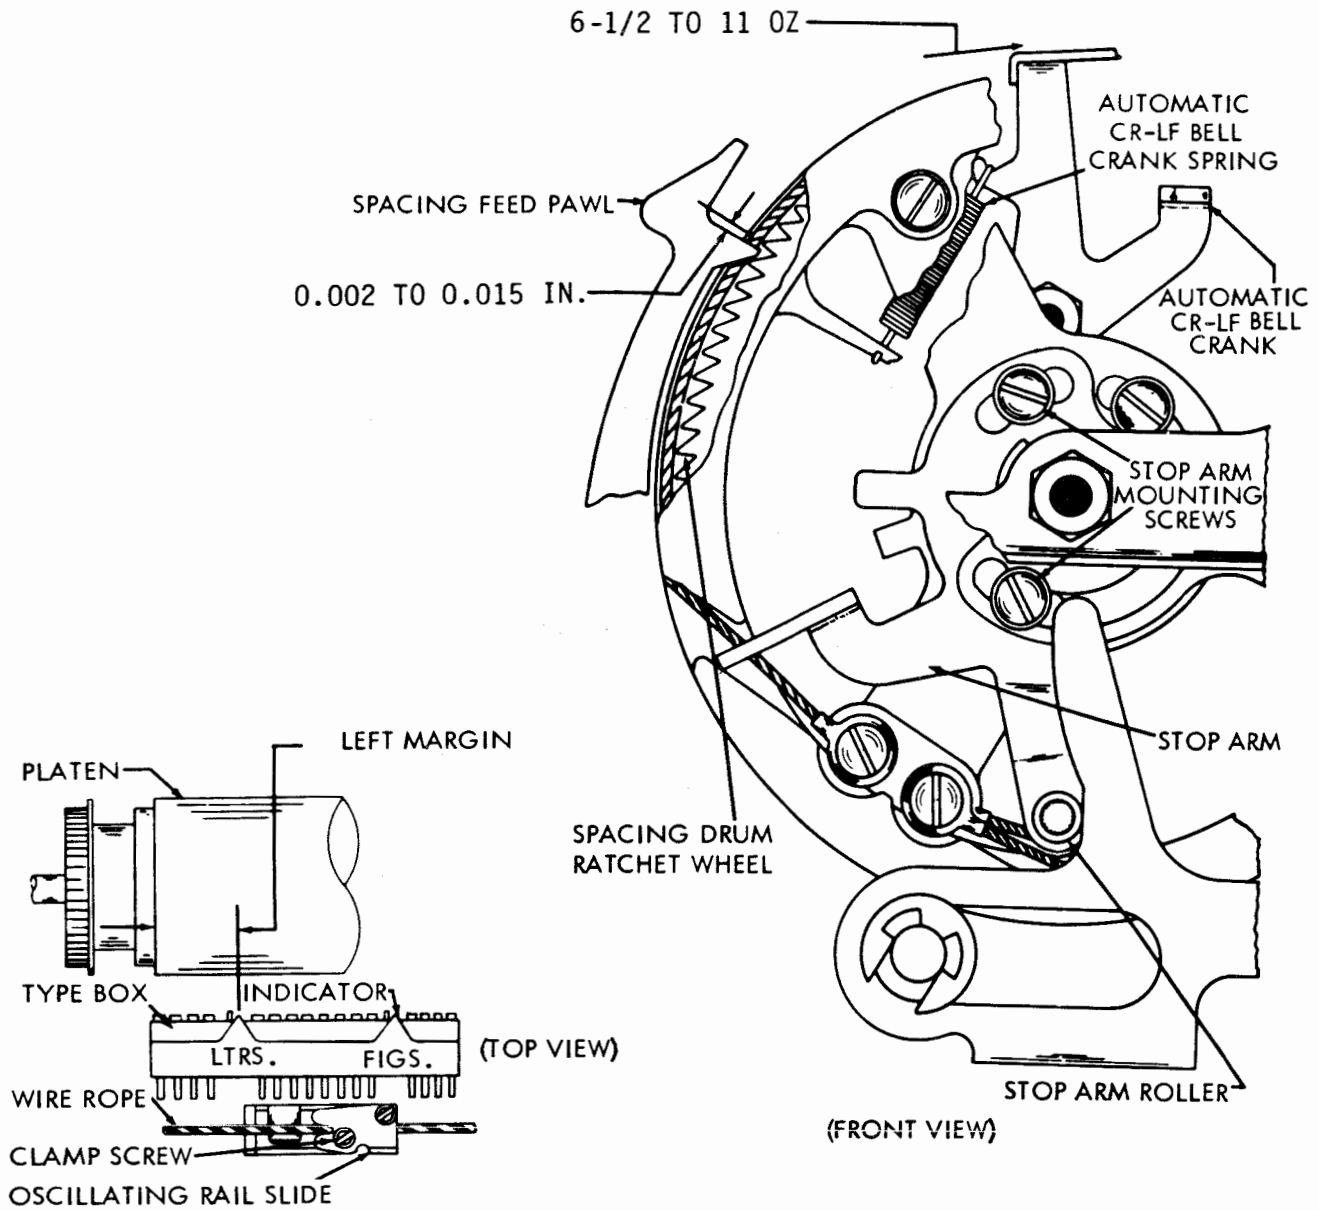
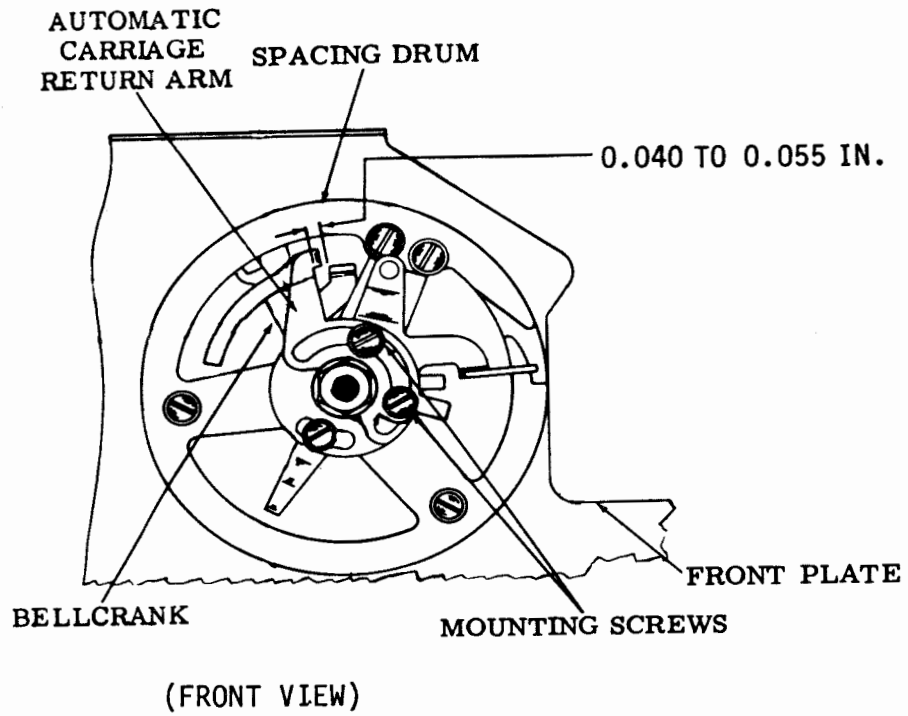

Figure 6-252. Left Margin and Automatic Carriage Return-Line Feed Bail Crank Spring
Figure 6-253. Automatic Carriage Return and Line Feed Arm
- figure 6-252.
(3) Automatic Carriage Return-Line Feed Bell Crank Spring. Adjust automatic carriage return-line feed bell crank spring as follows:
- (a) Refer to figure 6-252.
(4) Automatic Carriage Return and Line Feed Arm. Adjust automatic carriage return and line feed arm as follows:
- (a) Refer to figure 6-253.